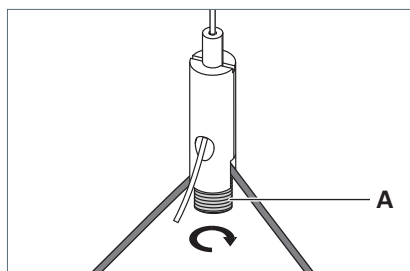

Fig. 26: Aligning the luminaire
- ▶ To align the luminaire, loosen the screws **A** of the wire rope holders, see Fig. 26.